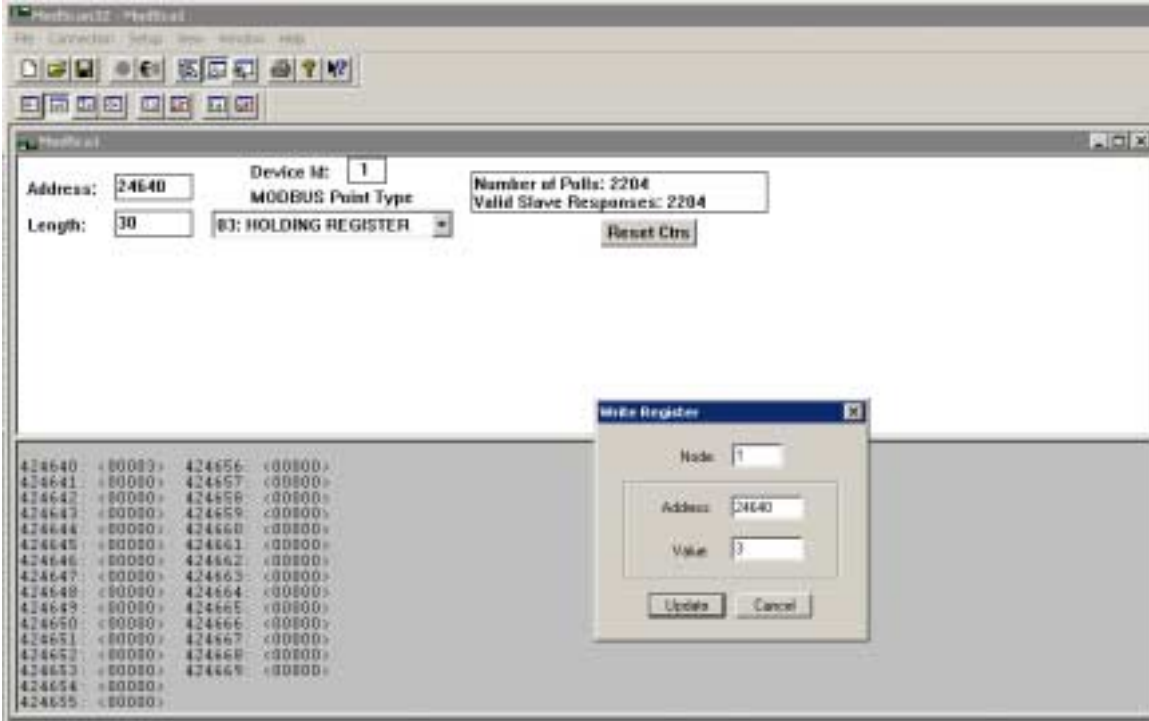

Figure 1.14: ModScan32 Master TCP changing RTU serial address to 3
4. With TCP communications established poke the Serial RTU address into Modbus register 24620. This is done by double clicking that address on the ModScan32 screen whereupon the "Write Register" dialog will appear, figure 1.14. Com1 is now running the RTU Serial protocol and will only respond to the address value entered. Make sure you are set for Holding Registers and the Length field is less than or equal to 50.